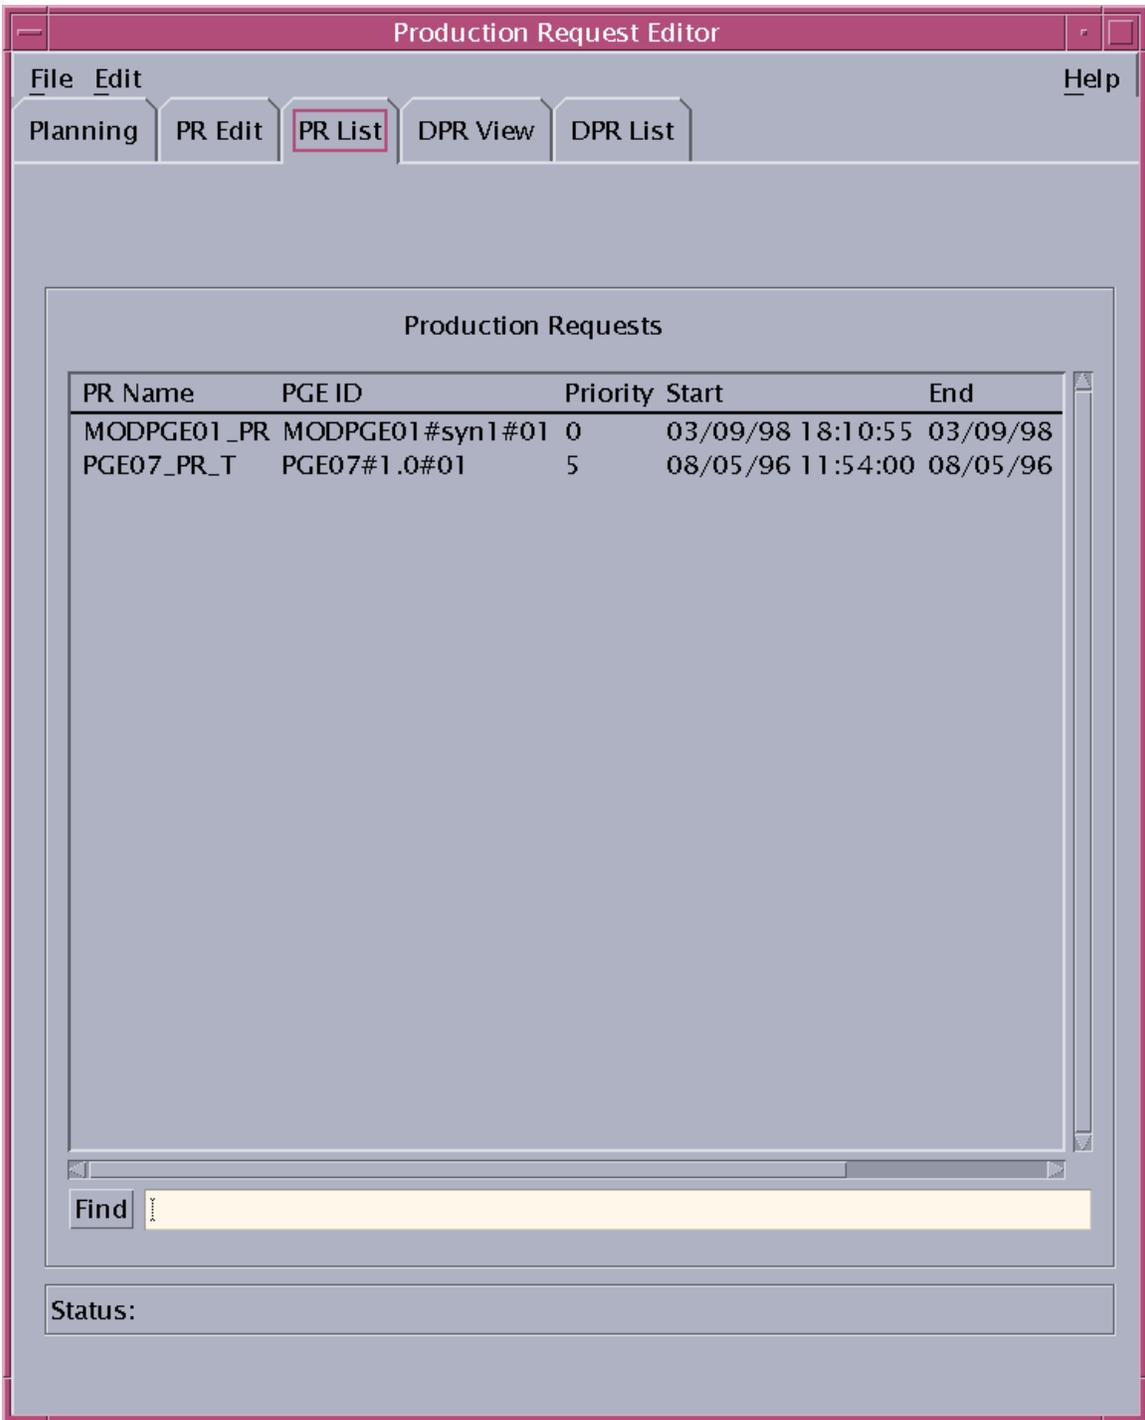

Figure 22. PR List GUI
- The **PR List** GUI page (Figure 22) is displayed.